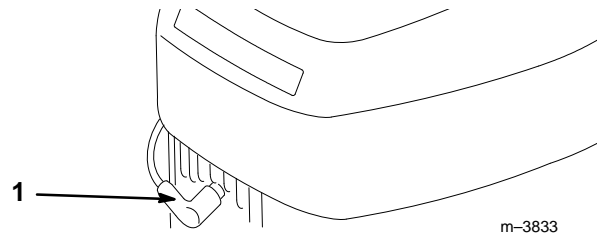

Figure 3
1. Stop engine and disconnect spark plug wire (Fig. 3) before installing or removing cover plate.
- Connect spark plug wire (Fig. 3).